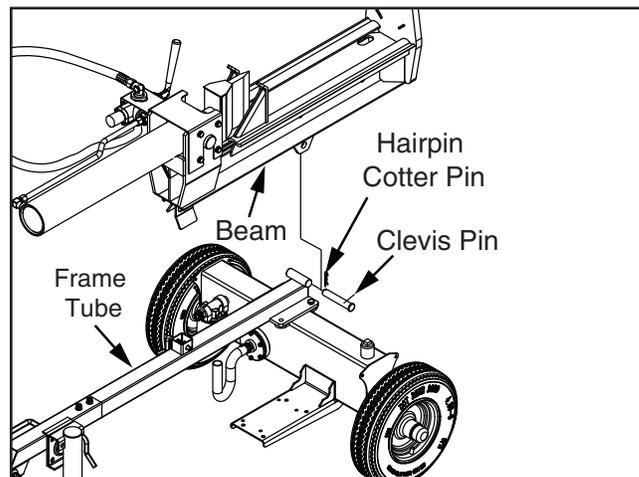

Figure 16. Attaching hydraulic cylinder and beam to frame tube.
10. With help of assistant, lift hydraulic cylinder and beam onto frame tube. Secure with (1) 21 x 126mm clevis pin and (1) 1³/₄" x 2¹/₂" hairpin cotter pin (see **Figure 16**).